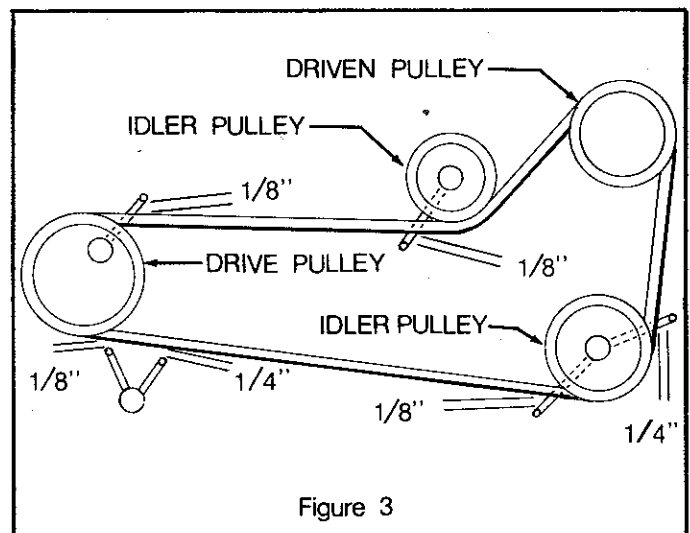

Figure 3
4. Move the PTO lever forward to the disengaged position. Install the drive belt over the drive pulley. Align the drive pulley with the pulleys in the belt drive cover. Check to insure that the belt is properly seated in the four pulleys. Adjust the belt stops as shown (Figure 3).